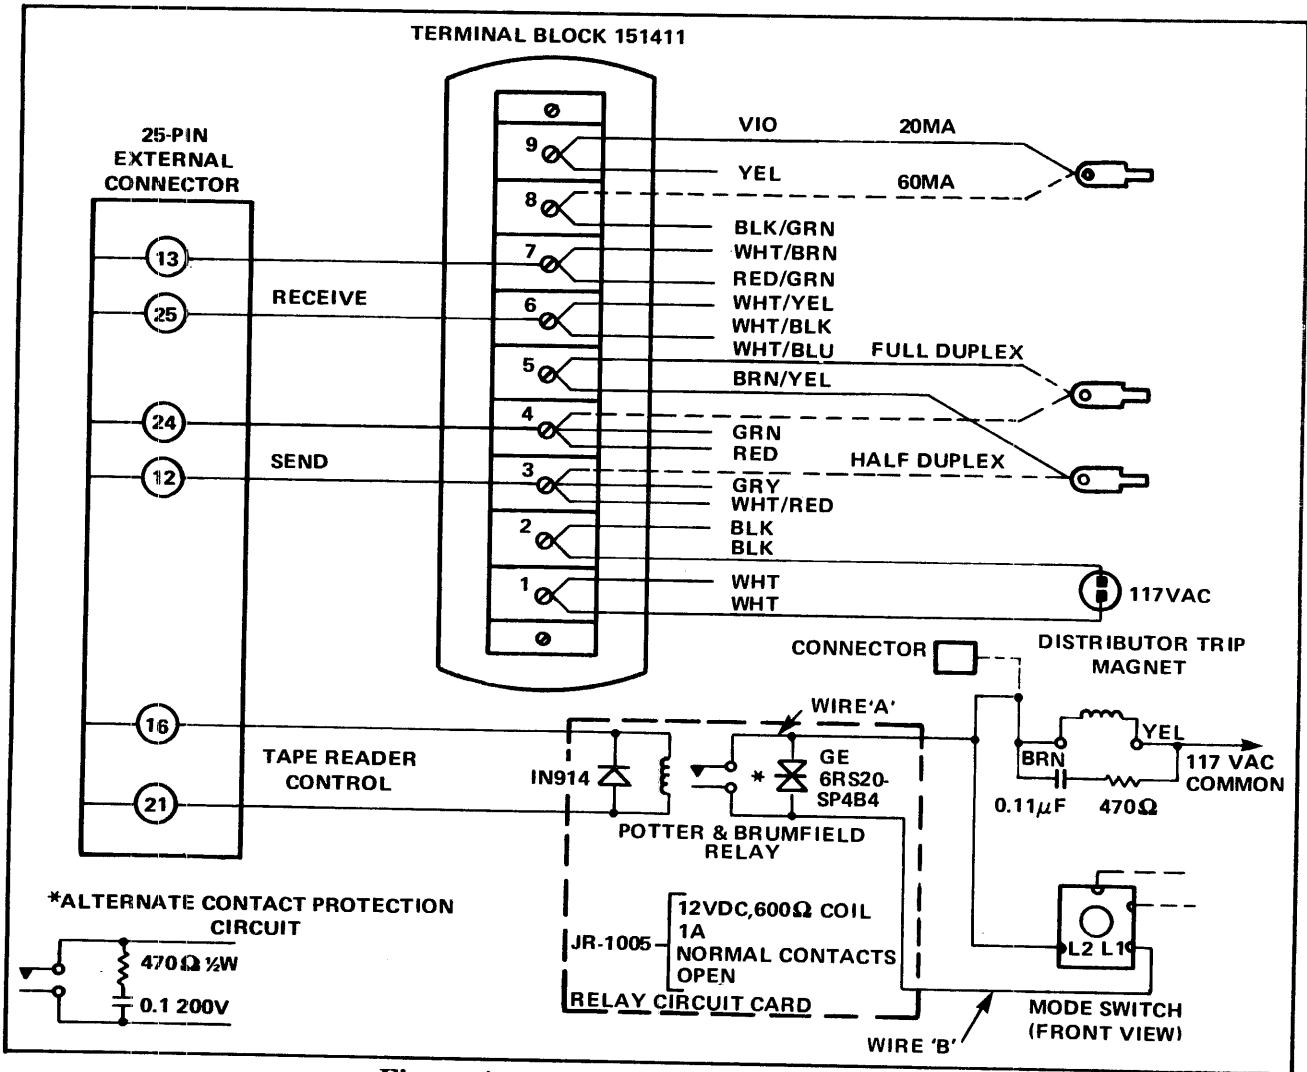
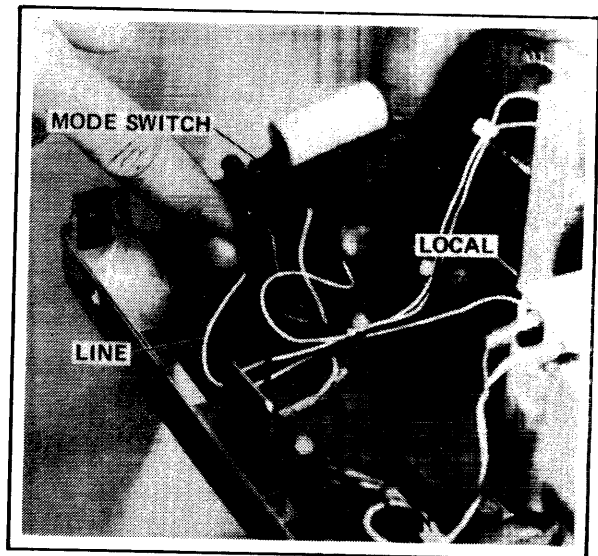

Figure A-4. Teletypewriter Modifications
Figure A-6. Mode Switch
A circuit diagram of the relay circuit card is included in figure A-4; this diagram also includes the part numbers of the relay, diode, and thyrector. (Note
- a. Refer to figure A-4 and connect a wire (Wire 'A') from relay circuit card to terminal L2 on mode switch. (See figure A-6.)
- c. Refer to figure A-4 and connect a wire (Wire 'B') from relay circuit board to terminal L1 on mode switch.
Connect a two-wire receive loop, a two-wire send loop, and a two-wire tape reader control loop to the external device as shown in figure A-4. The external connector pin numbers shown in figure A-4 are for interface with an RS232C device.